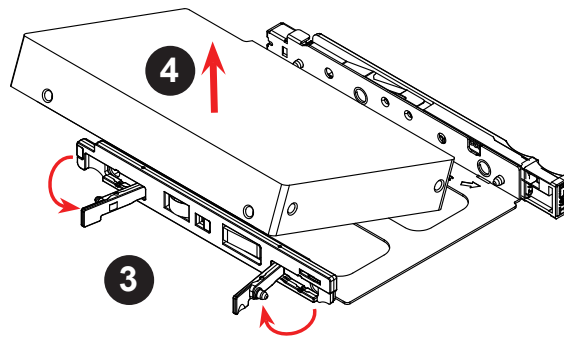

Figure 3-10. Removing a Drive from a Carrier
4. Remove the drive from its carrier at an angle as shown in Figure 3-10.